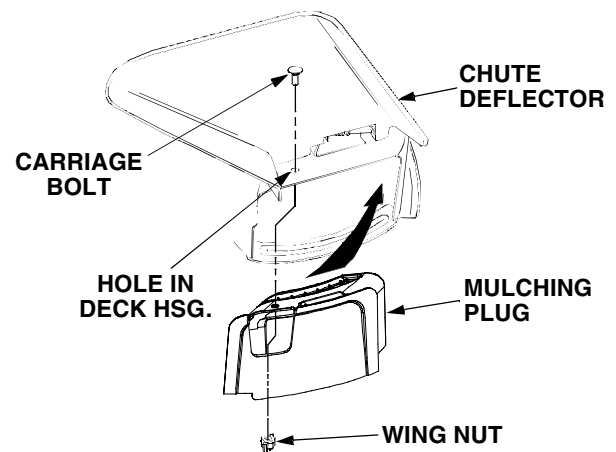

Figure 4-2
2. Lift the chute deflector upward and insert the mulching plug into the discharge opening of the deck (Refer to Figure 4-2).
3. Position the mulching plug so that its top hole aligns with the hole in the top of the deck housing. Install the carriage bolt through both surfaces and secure with the wing nut (See Figure 4-2).